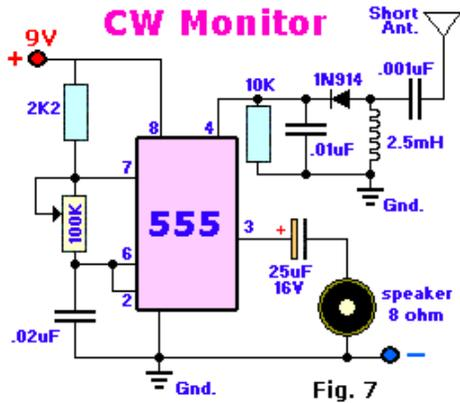

Fig. 7
**Fig. 7, CW Monitor:** This circuit monitors the Morse code 'on-air' via the tuning circuit hook-up to pin 4 and the short wire antenna. The 100K potentiometer controls the tone-pitch.